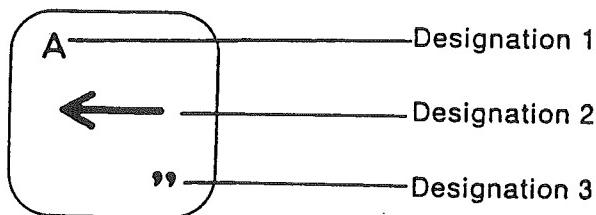

FIG. 4-2 Designations
- One of the keys has three (3) designations. See Figure 4-2.